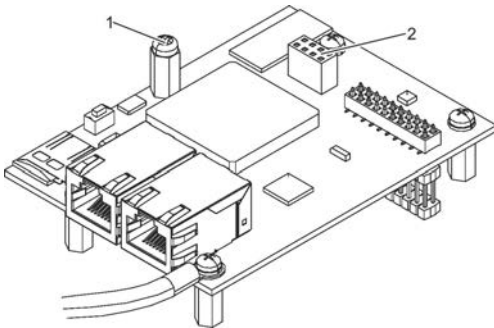
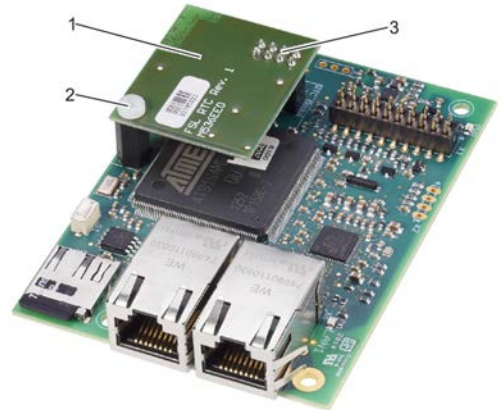

Fig. 11: Fixing screw
Fig. 12: Mounting the RTC module
- 8. ▶ Remove the fixing screw (Fig. 11/1).
- 9. ▶ Slot the RTC module (Fig. 12/1) with the pins (Fig. 12/3) onto the 8-pole slot (Fig. 11/2) of EM-IP.
- 10. ▶ Fix the RTC module with the fixing screw (Fig. 12/2) to EM-IP.